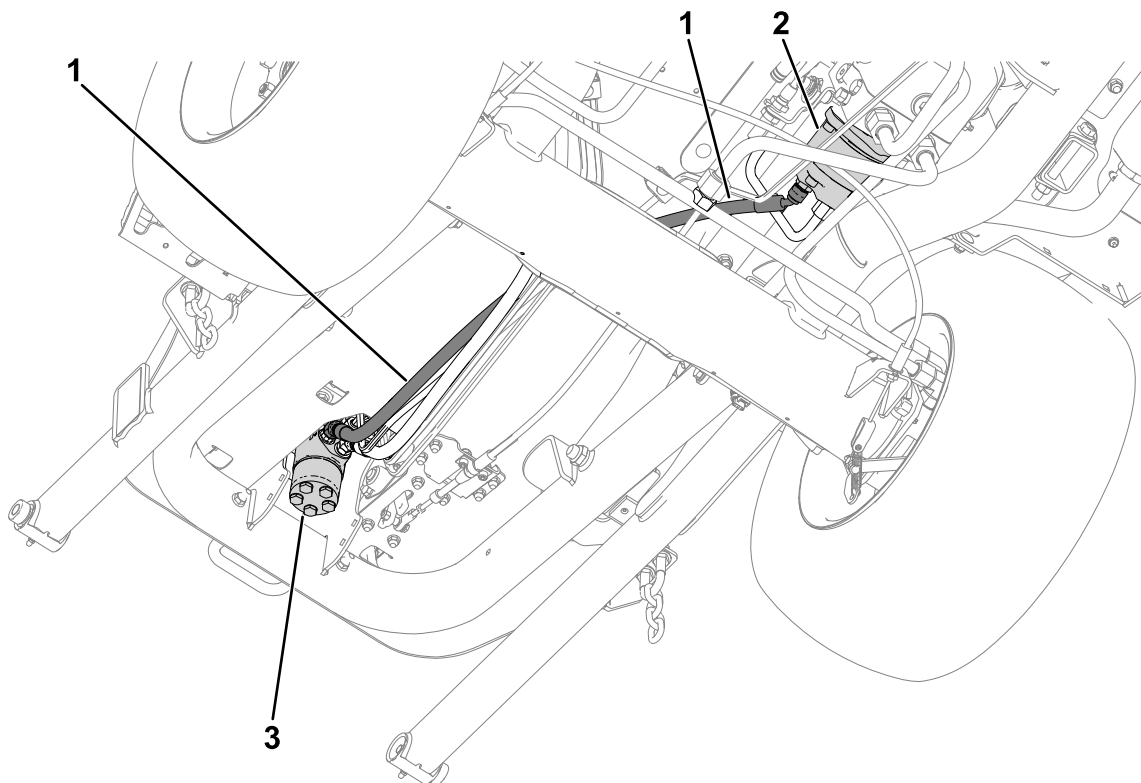

Figure 11
5. Ensure that the hydraulic hose is routed as shown in Figure 11.